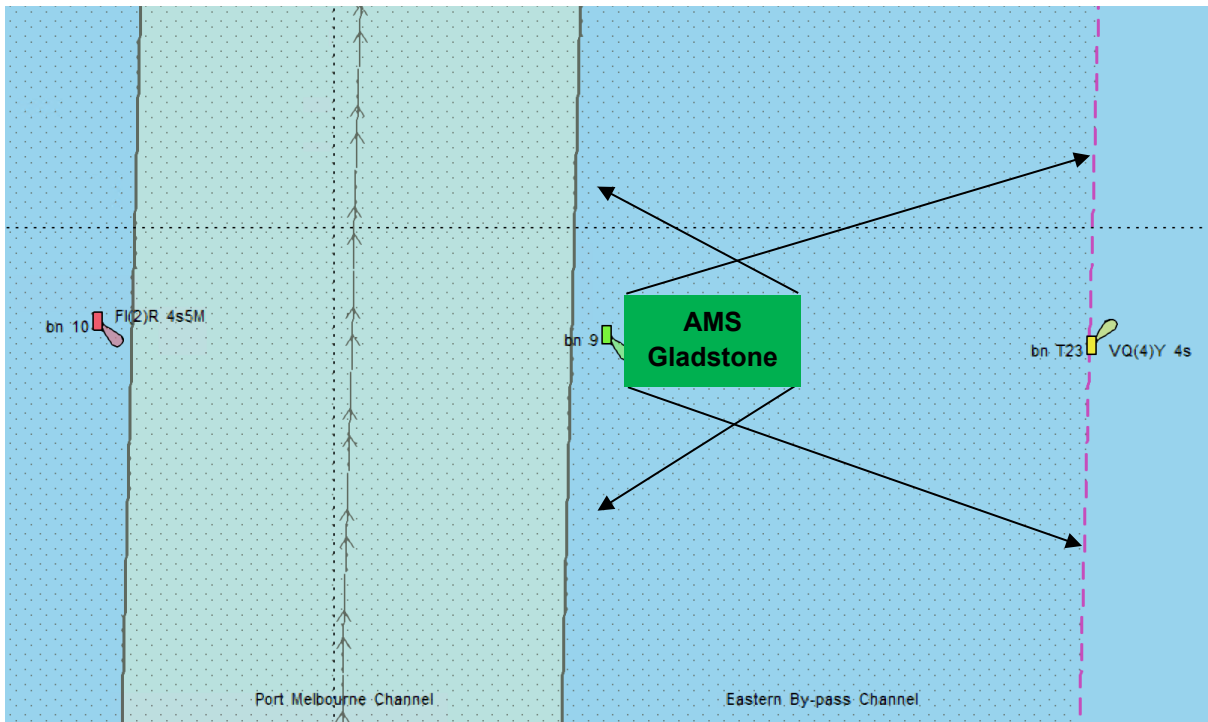

Figure 3
2. *AMS Gladstone* may be moored **during works** in adjacent waters to beacons **3, 7, 8, 9, 70, 73, 74, 76, 78 and 79** (figure 3).